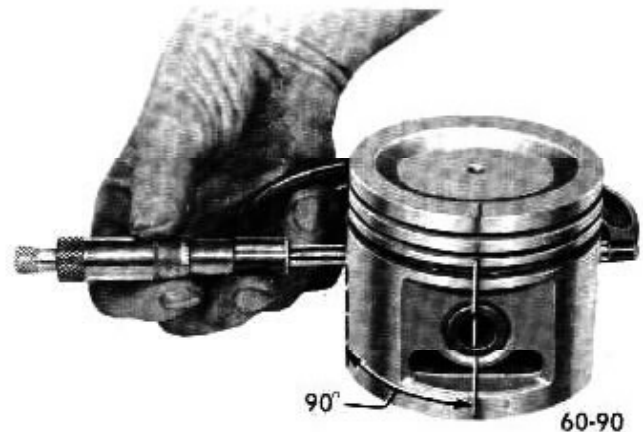

Figure 60-97 - Measuring Piston
then slowly turning crankshaft so that the tool rotates the shell out of place by pushing against the end without the tang. See Figure 60-97.
The pistons are cam ground, which means that the diameter at a right angle to the piston pin is greater than the diameter parallel to the piston pin. When a piston is checked for size, it must be measured with micrometers applied to the skirt at points 90 degrees to the piston pin. See Figure 60-97. The piston should be measured (for fitting purposes) 1/4" below the bottom of the oil ring groove.
Before the honing or reboring operation is started, measure all new pistons with micrometer contacting at points exactly 90 degrees to piston pin (Figure 60-97 then select the smallest piston for the first fitting. The slight variation usually found between pistons in a set may provide for correction in case the first piston is fitted too free.
3. Measure the piston to be installed. See Figure 60-97. The piston must be measured at right angles to the piston pin $1/4$ " below the oil ring groove. The piston must be between .0008" and .0014" (350 Cu. In.) and .0007" to .0013" (455 Cu. In.) smaller than the cylinder bore.